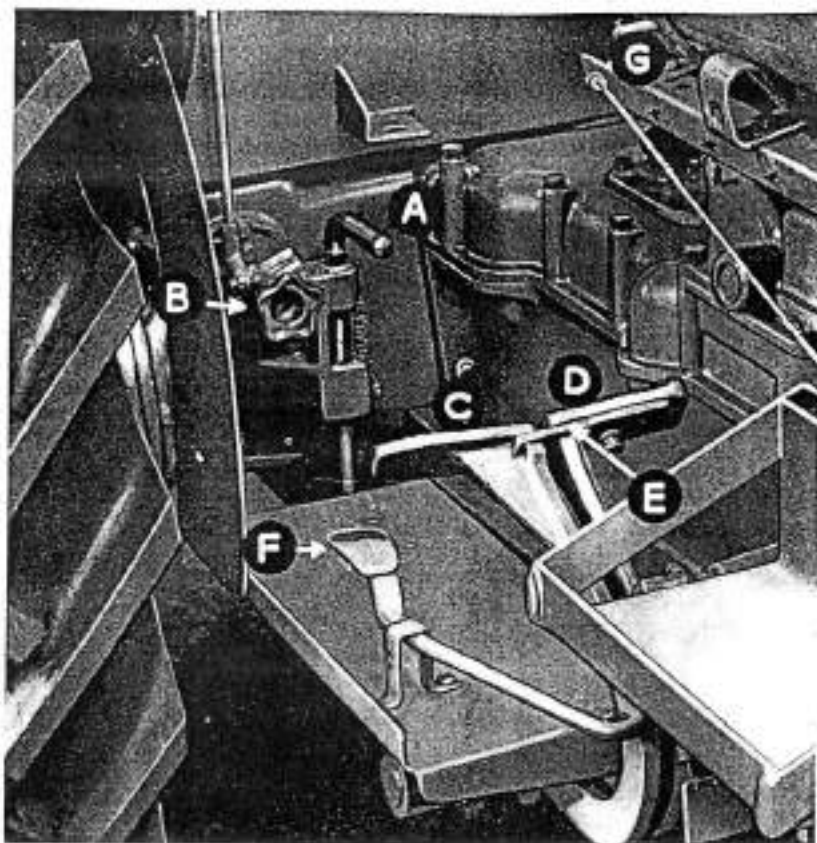

FIG. 5
RADIATOR BLIND CONTROL (G, Fig. 5)
BRAKE PEDALS (C and D, Fig. 5)
Independently acting brake pedals are mounted side by side on the offside and may be used individually as steering brakes for making short turns at headlands. When applied each pedal operates the corresponding rear wheel brake. The pedals may be locked together with a locking bar (E, Fig. 5) and used as road brakes.
HAND BRAKE (A, Fig. 5)
Hand Wheel B, Fig. 5, fitted at the front right side axle case.
2. To adjust the amount of traction control, turn the hand wheel B, Fig. 5, in a clockwise direction, as indicated by the arrow, to increase the traction or in an anti-clockwise direction to reduce the traction. The hand wheel adjusting screw has a maximum of four complete turns and each turn requires six "clicks" of the graduated adjustment.